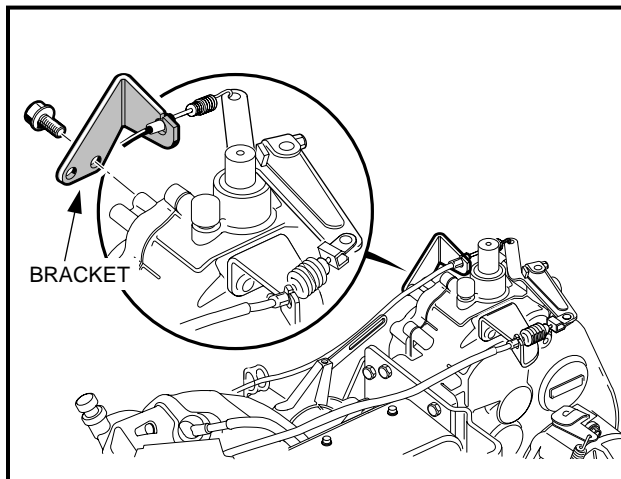

Figure 16-95 Accelerator Cable Bracket
7. Install the accelerator cable bracket on transaxle case. Tighten the mounting screws to 134 in-lb (15.1 N-m) (**Figure 16-95, Page 16-40**).